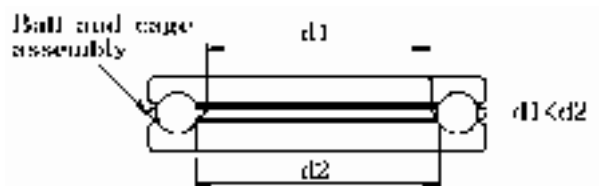

Fig. 6-30
5) The flat-seat thrust bearing, as shown in Fig. 6-30, should be installed with the larger bore side turned downwards. Also install the ball-cage assembly as shown in the figure.